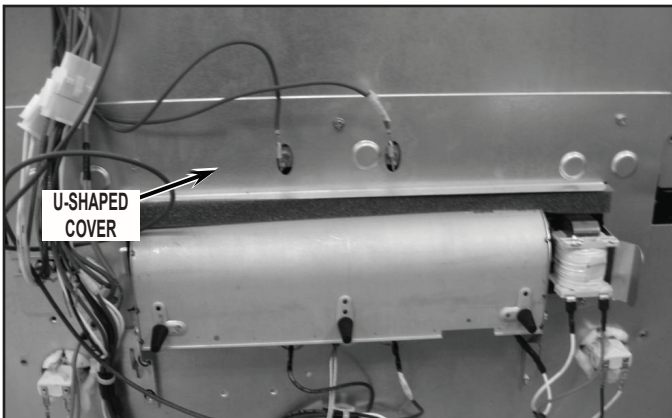

FIGURE 2
4. Disconnect blower from wire harness. On double ovens, also remove the U-shaped cover located near the lower blower. See *Figure 2*.